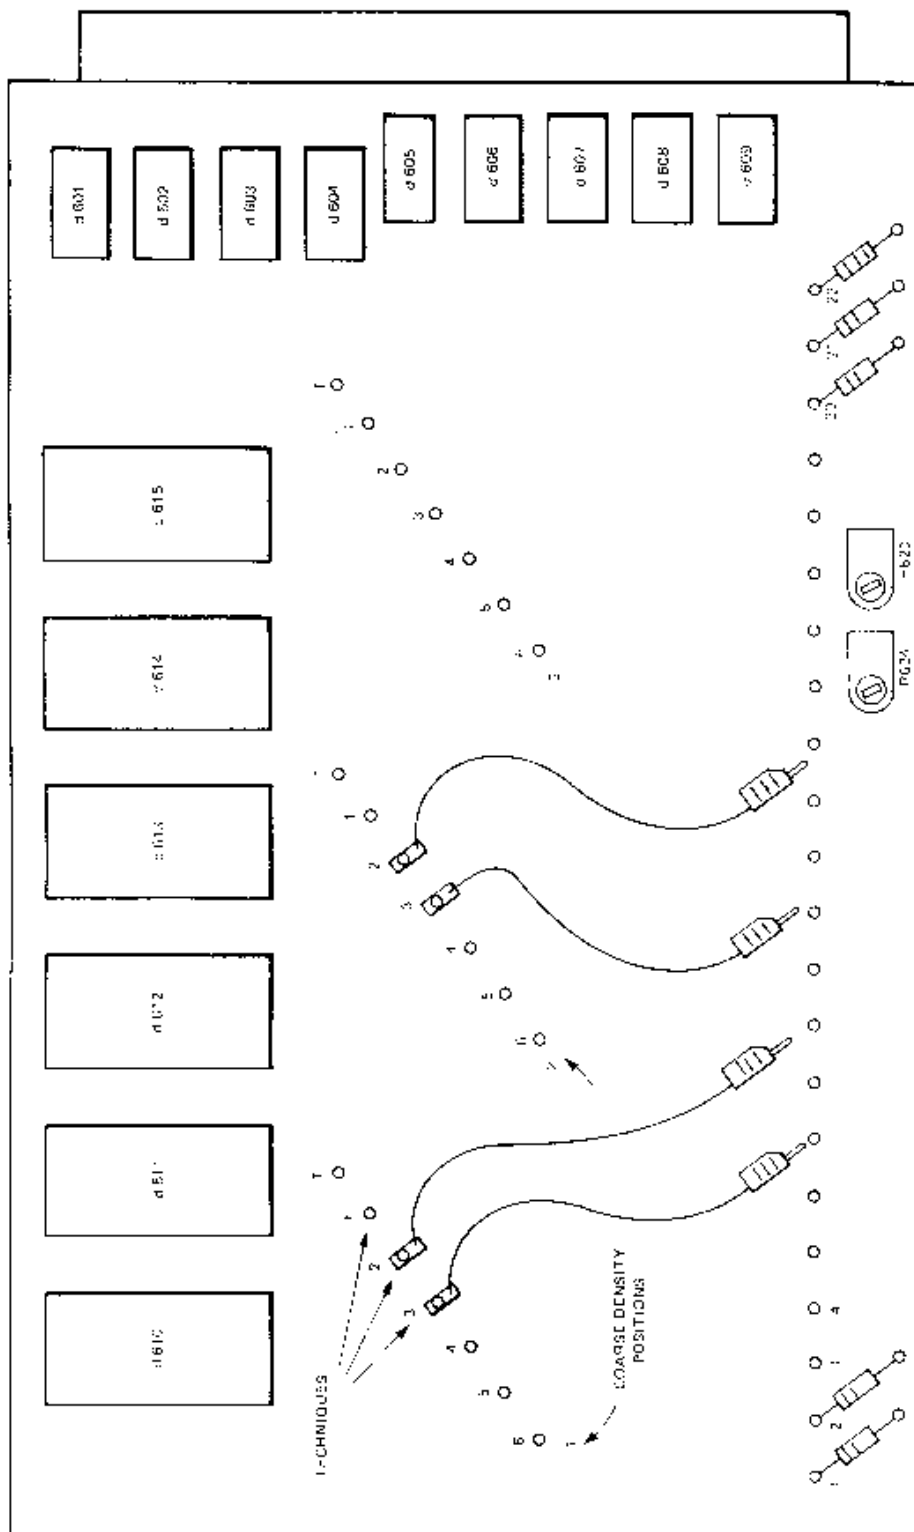

FIG. 16 GEOMAT ELECTRONICS MODEL 5-BOARD L6
- F On board U6 (see Fig. 16) in the Gecomat Electronics Module check that relays d609 and d608 open at 80kV and 100kV, respectively, and that they both stay open when the kV is advanced beyond 100kV to maximum.